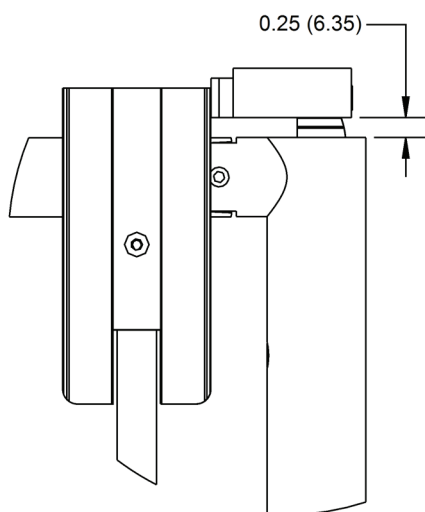

Figure 5-5
- The Latch can be adjusted up and down. Figures 5-5 and 5-6 show the maximum and the minimum dimensions for the Strike location.
- Figure 5-5 is for the maximum height from the top of the Tube to the bottom of the Strike.